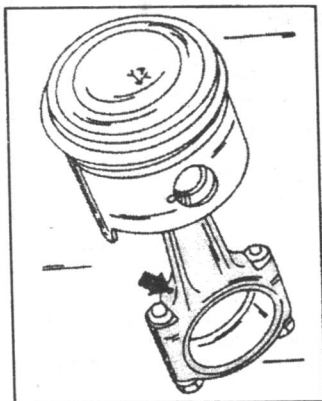

Fig. 1.67. — Correct assembly of pistons and connecting rods. The arrow in the piston crown and the oil splash hole must be on the same side.
- Coat the piston pin and the piston bore with engine oil and place the piston over the connecting rod small end. The arrow in the piston crown and the oil splash hole in the connecting rod must be aligned as shown in Fig. 1.67.